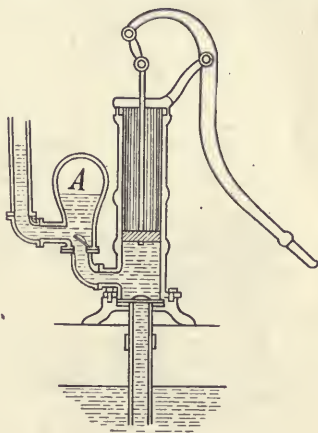

FIG. 43.—A force pump with an air chamber (A)
63. The Force Pump.—The force pump is used to deliver water under pressure either for spraying or to an elevated reservoir. The piston is solid, the second valve being placed at the entrance of the discharge pipe. (See Fig. 43.) The action is the same as that of the lift pump, with this exception; the piston in its down